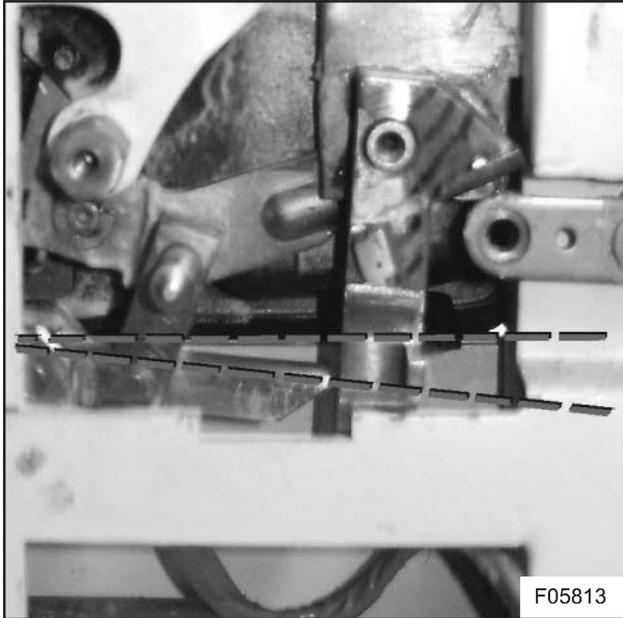

Figure 27: Adapter linkage B installation step 3
- 3) Before marking the holes, make sure the linkage is running slightly downwards, when the handle is in the locked position (see Figure 27). Move the position of the holes up or down as necessary.